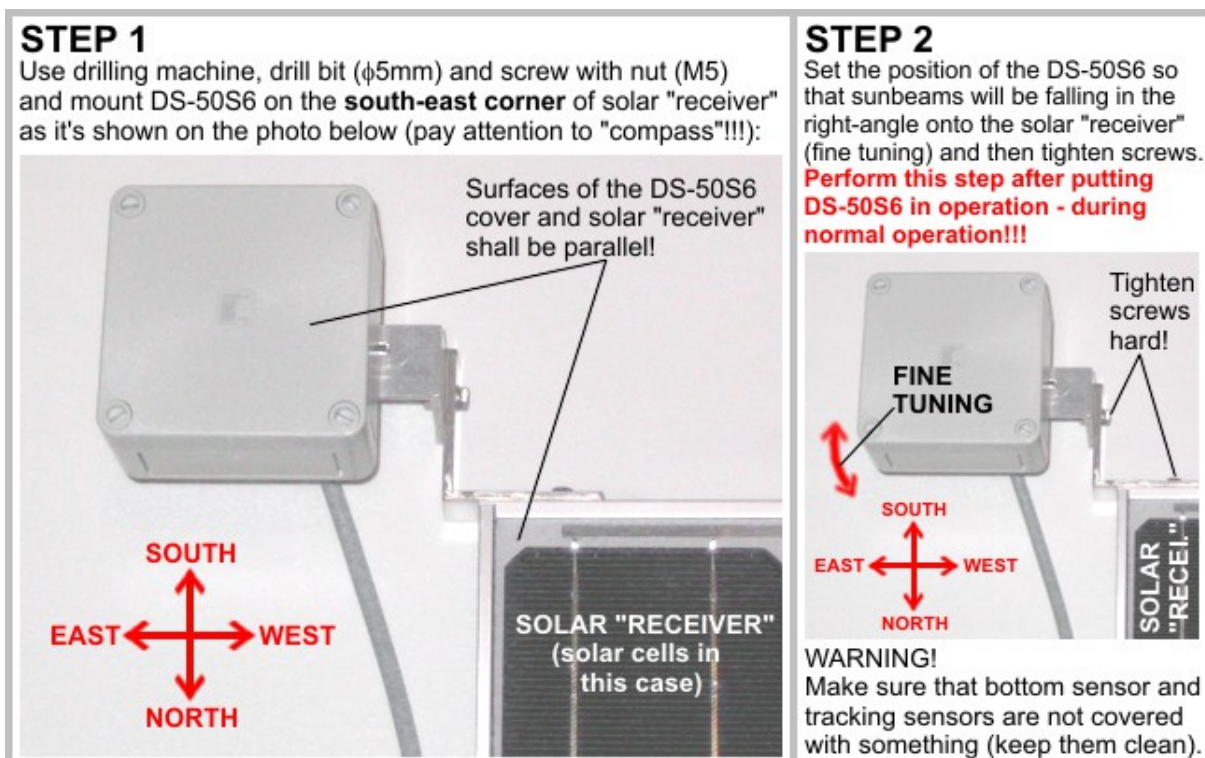

Figure 7: Mounting DS-50S6 on the solar "receiver" (southern hemisphere)
b) If your tracker (solar "receiver") is located somewhere in the southern hemisphere of the earth mount DS-50S6 on the south-east corner of your solar "receiver" as it's shown on Figure 7: